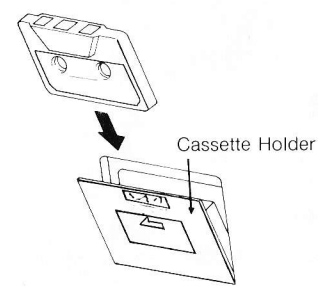

Fig. 23
- 2. Push the Eject button and insert the tape into the cassette holder as shown in Fig. 23.